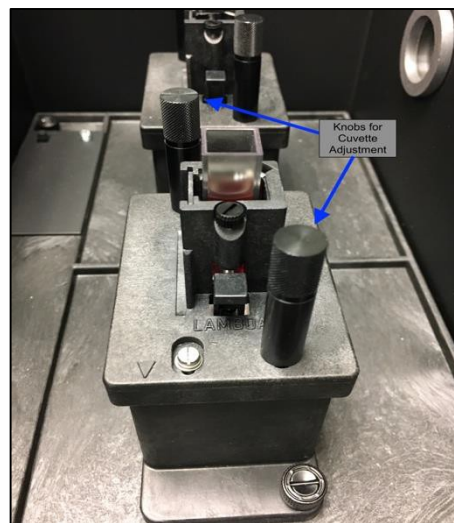

Figure 4: The front reference holder with the cuvette adjustment knobs.
- b. You may find it helpful to place a piece of paper behind the cuvette to observe the light passing through the cuvette. Adjust the cuvette's position using the adjustment knobs shown in Figure 4.